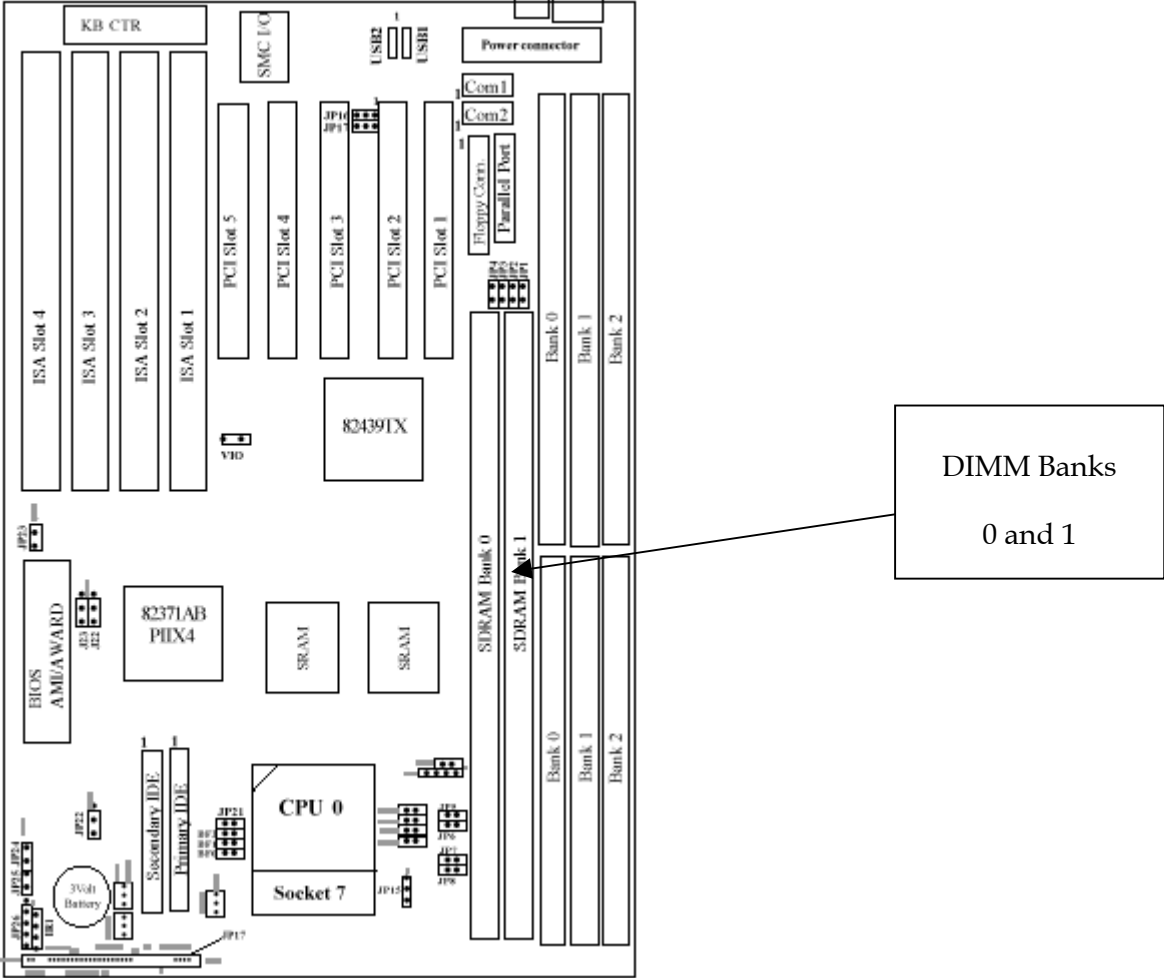

FIG. 3
- 2) Locate DIMM banks 0 and 1 (Fig. 3) The factory configuration uses one 32-MB module, and one 16-MB module. The 32-MB will be identifiable by 4 ICs, and the 16-MB module will be identifiable by 8 ICs.